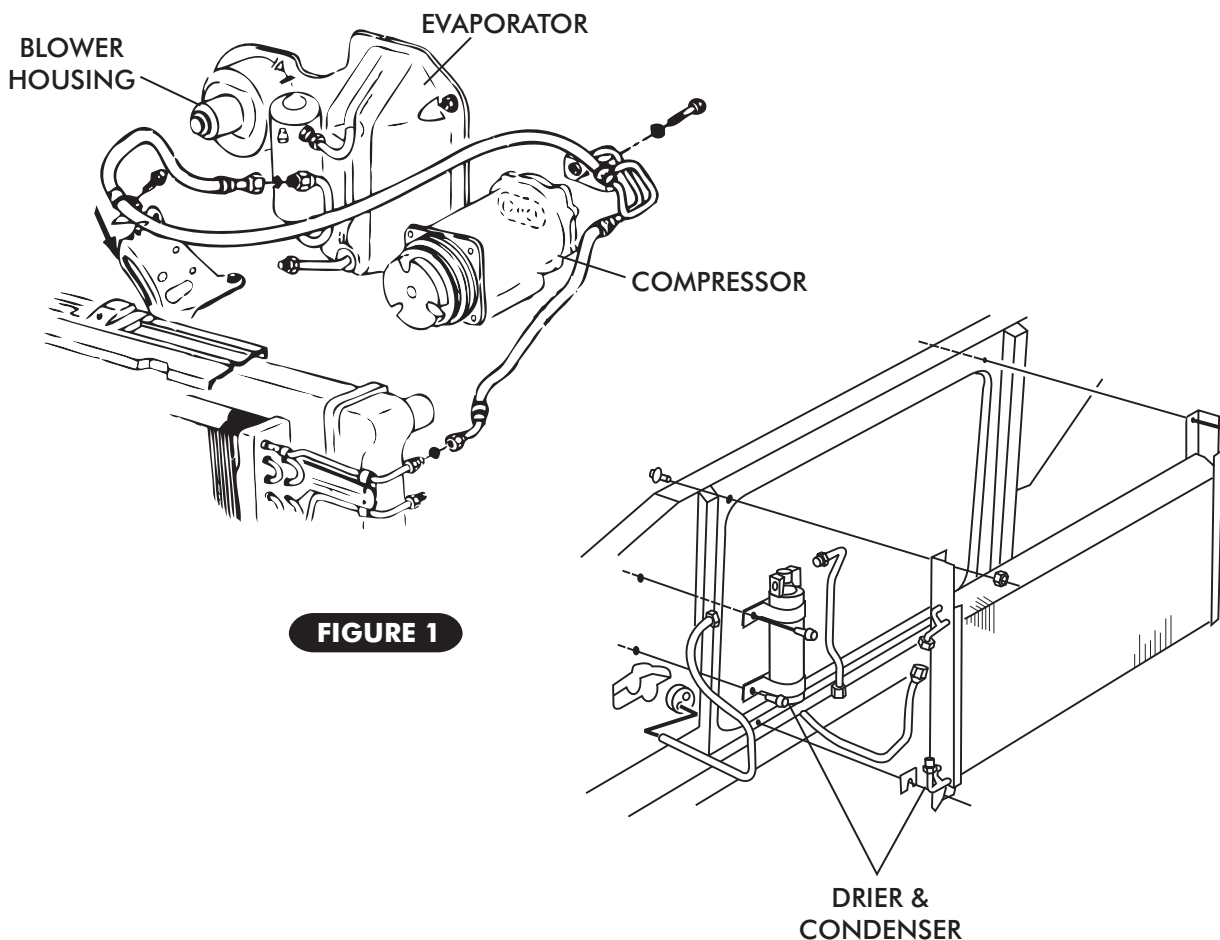

FIGURE 1
- ☐ OEM CONDENSER AND DRIER (DISCARD). SEE FIGURE 1.
- ☐ OEM HEATER HOSES, A/C HOSES AND HARDLINES (DISCARD). SEE FIGURE 1.